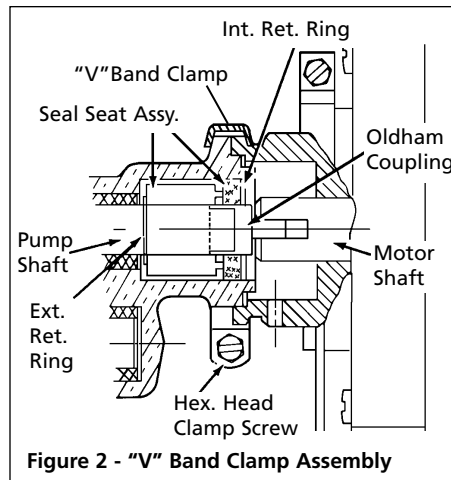

Figure 2 - "V" Band Clamp Assembly
PUMP HEADS (NO MOTOR) – Close-coupled gear pump heads are designed to direct couple to carbonator pump motors (See NEMA Spec. MGI-18.739, Dimensions of Carbonator Motor mounting). The face of this gear pump has been machined to match the carbonator motor face. Pump and motor held together with a stainless steel beveled “V” band clamp. Coupling of shafts is done by mating the carbonator motor’s slot with the pump’s slot using the Oldham coupling (See Figure 2). This positive displacement characteristic offers a wide range of applications.
1. Refer to Figures 2 and 3.
5. Slip the "V" band clamp over the pump and motor halves (See Figure 2) and tighten the hex head clamp screw to hold the assembly together.